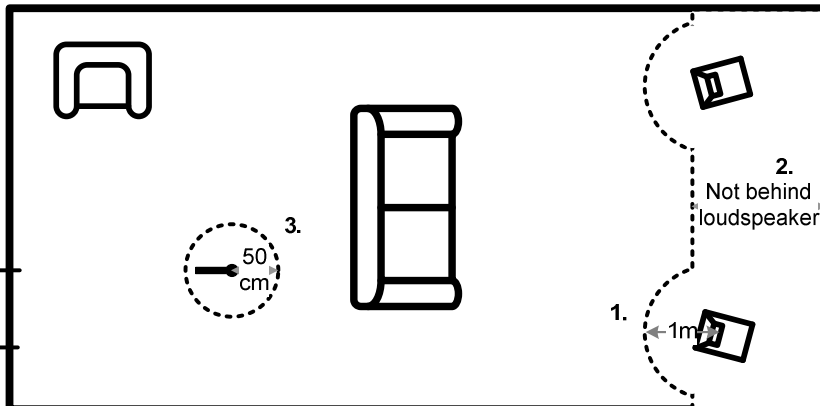

Fig 4: Illustration of guidelines for room measurements
These points are illustrated in figure 4.
- For optimal room correction it is very important that the measurements are: performed more than 1 meter (approx. 3 feet) away from the loudspeakers, not performed behind the loudspeaker, and that there is at least 50 cm (approx. 1.5 feet) between each measurement, see figure 4.